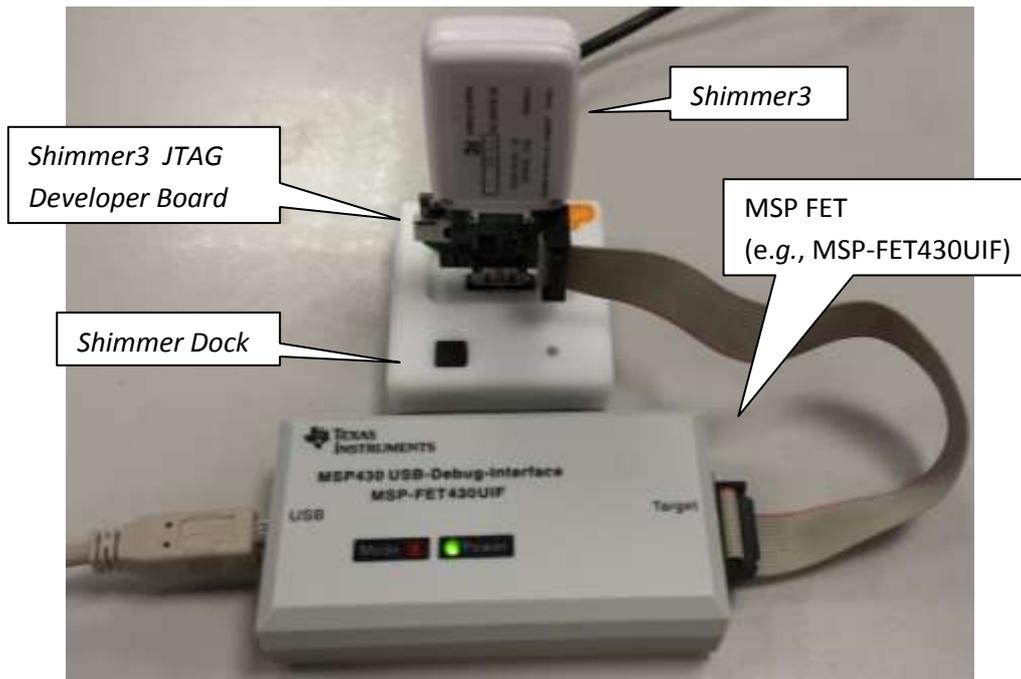

Figure 3-1: Typical hardware configuration for programming and debugging a Shimmer3.
1. Connect a third party MSP FET into the *Shimmer3 JTAG Developer Board* - as shown in Figure 3-1. For installation procedures of an individual MSP FET, please refer to the device specific user manual.